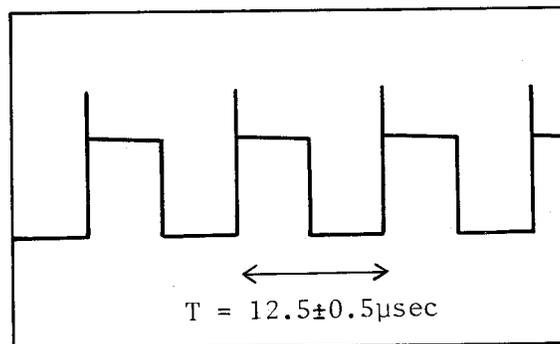

Figure 1-4. Switching Waveform
7. Adjust A1R19 (**FREQ-ADJ**), until the period (T), of the waveform, is 12.5 $\mu$ s  $\pm$ 0.5 $\mu$ s, as shown in Figure 1-4.